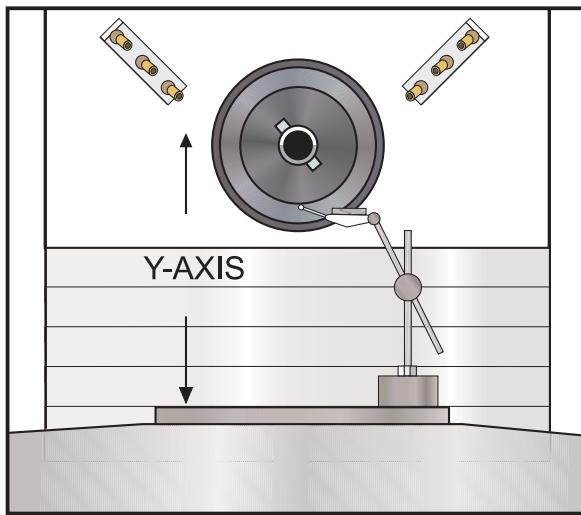

Figure 1.3-2. Dial indicator in position to check Y-axis.
1. Set up a dial indicator and base on the mill table as shown in Fig. 1.3-2.
An alternate method for checking backlash is to place the dial indicator as shown in Fig. 1.3-2 and manually push up and down on the spindle head while listening for a 'clunk'. The dial indicator should return to zero after releasing the spindle head.